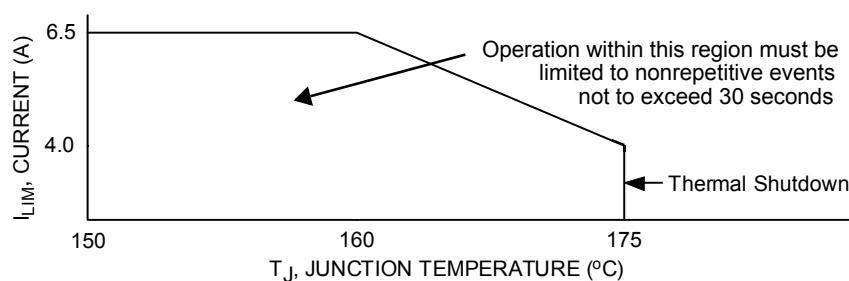
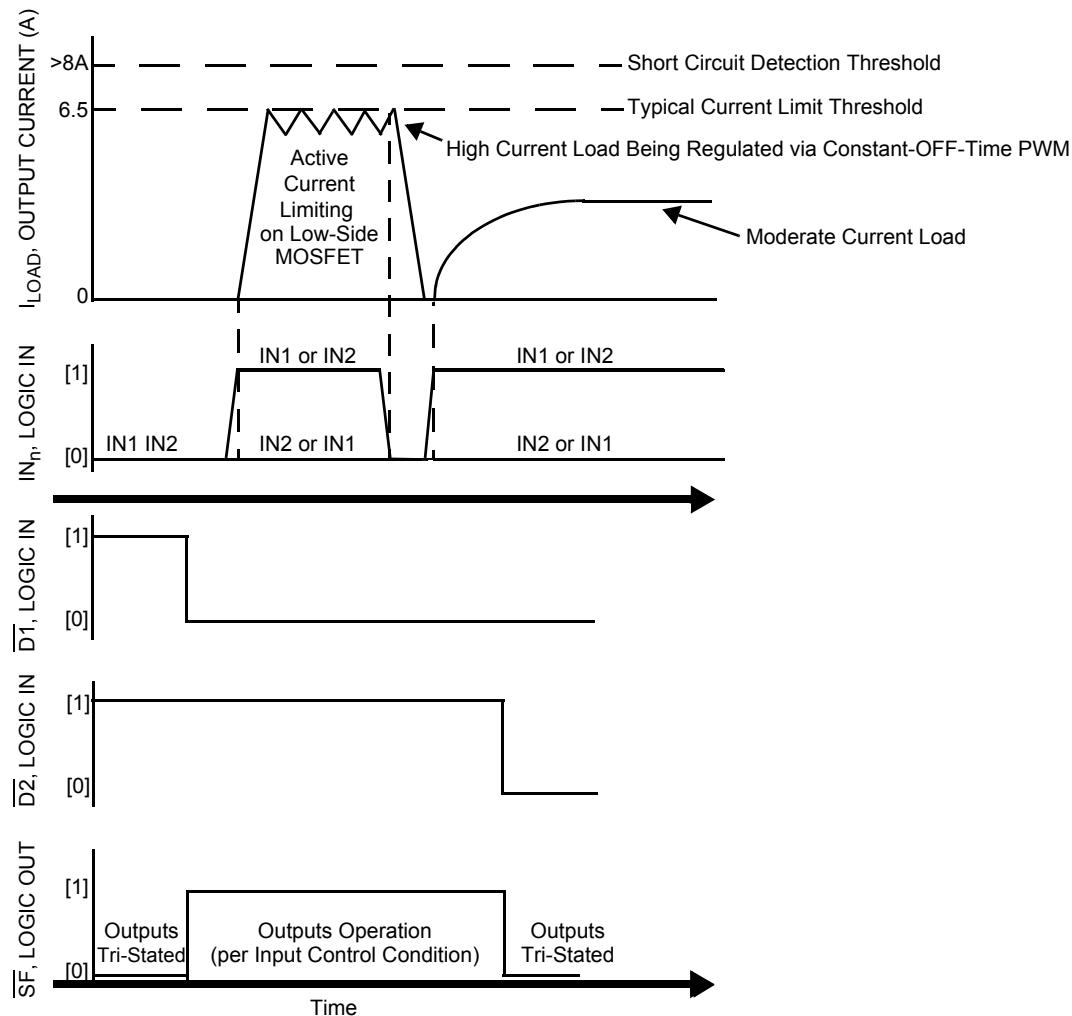

Figure 9. Active Current Limiting Versus Temperature (Typical)
Figure 10. Operating States
- 28 Load currents ramping up to the current regulation threshold become limited at the  $I_{\text{LIM}}$  value. The short circuit currents possess a  $di/dt$  that ramps up to the  $I_{\text{SCH}}$  or  $I_{\text{SCL}}$  threshold during the  $I_{\text{LIM}}$  blanking time, registering as a short circuit event detection and causing the shutdown circuitry to force the output into an immediate tri-state latch-OFF. See Figures 10 and 11, page 13. Operation in Current Limit mode may cause junction temperatures to rise. Junction temperatures above  $\sim 160^\circ\text{C}$  will cause the output current limit threshold to progressively “fold back”, or decrease with temperature, until  $\sim 175^\circ\text{C}$  is reached, after which the  $T_{\text{LIM}}$  thermal latch-OFF will occur. Permissible operation within this fold-back region is limited to nonrepetitive transient events of duration not to exceed 30 seconds. See Figure 9, page 12.